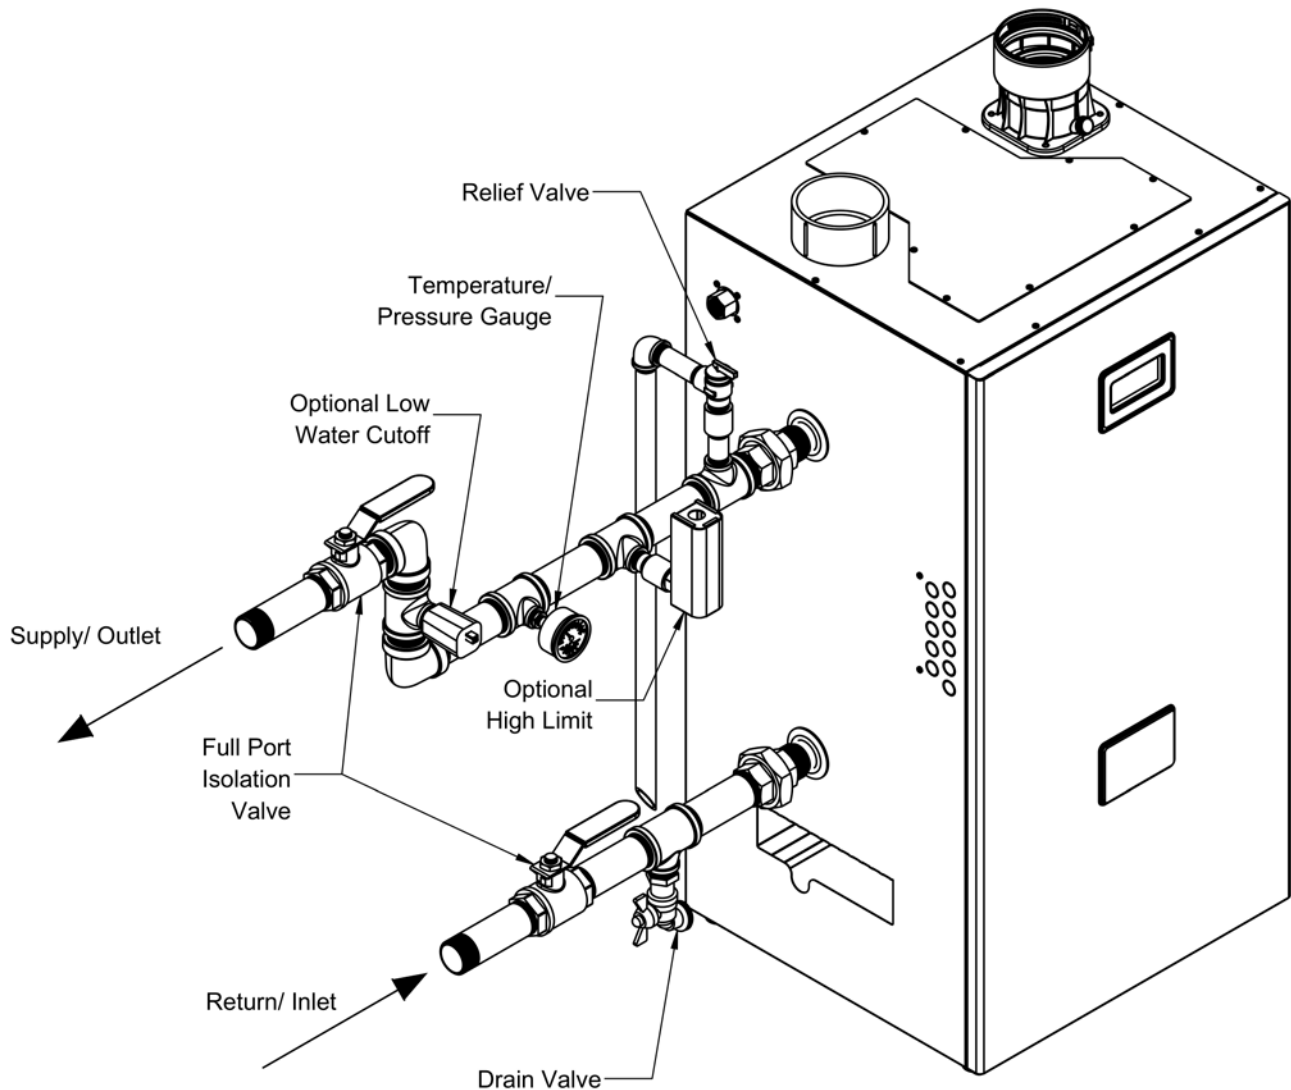

Figure 9.1: Near Boiler Piping
1. Relief Valve (Required) – The relief valve is shipped loose and must be installed in the location shown in Figure 9.1. ASME Section IV currently requires that this relief valve be installed above the heat exchanger as shown. Pipe the outlet of the relief valve to a location where water or steam will not create a hazard or cause property damage if the valve opens. The end of the discharge pipe must terminate in unthreaded pipe. If the relief valve discharge is not piped to a drain, it must terminate at least 6" above the floor. Do not run the discharge piping through an area that is prone to freezing. The termination of the relief valve must be in an area where it is not likely to become plugged by debris.
2. Gauge (Required) - Indicates supply water pressure and temperature. This gauge is shipped loose. Install it as shown in Figure 9.1.
7. Manual Reset High Limit (required by some codes) (P/N 106056-01) - This control is required by ASME CSD-1 and some other codes. Install the high limit in the boiler supply piping near the boiler with no intervening valves as shown in Figure 9.1. Set the manual reset high limit to 200°F. Wire the limit per Figure 10.3 in Section X "Wiring".
10. Drain Valve (required) – Install the drain valve supplied as shown in Figure 9.1.